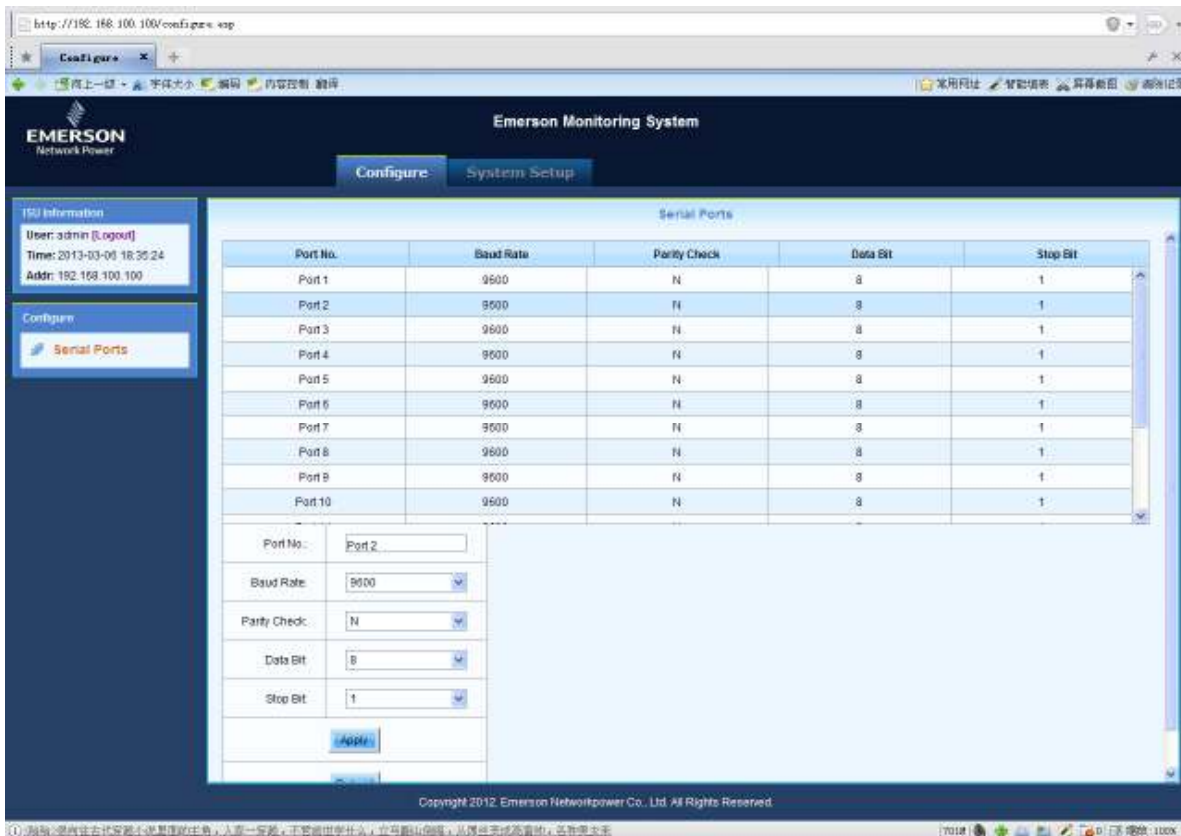

Figure 4-3 Configure interface
3. Select the **Configure** tab to set the baudrate of the serial port, as shown in Figure 4-3.